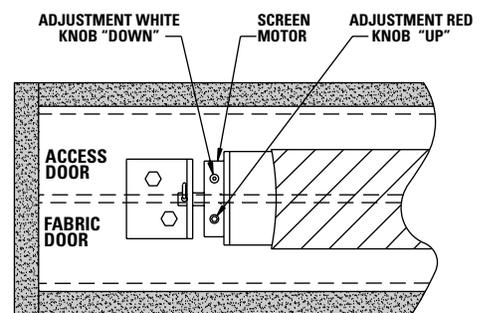

FIGURE 4
2. When the screen stops, turn the white "down" limit knob (Fig.4) one-quarter turn counterclockwise. Test by raising picture surface approximately two feet, then lower again. Repeat until desired picture surface position is attained.
3. Turn the white "down" limit knob (Fig.4) one-quarter turn clockwise. Test by raising picture surface approximately two feet, then lower again. Repeat until desired picture surface position is attained.